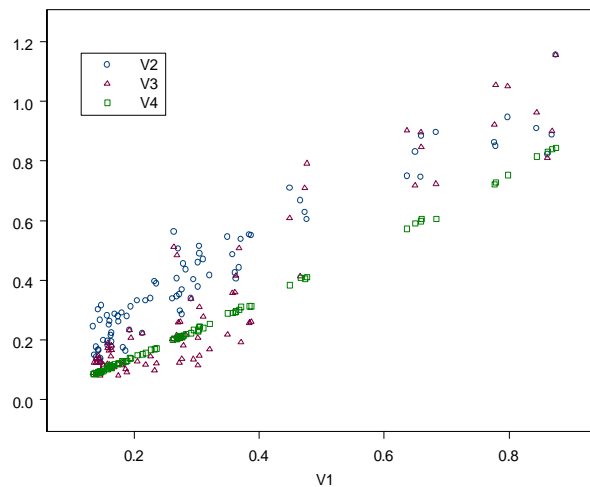

Figure 3.34: *Multiple plots in a graph for the sensors data.*
3. Click the **Auto Legend** button  to add a legend. The resulting graph is shown in Figure 3.34.